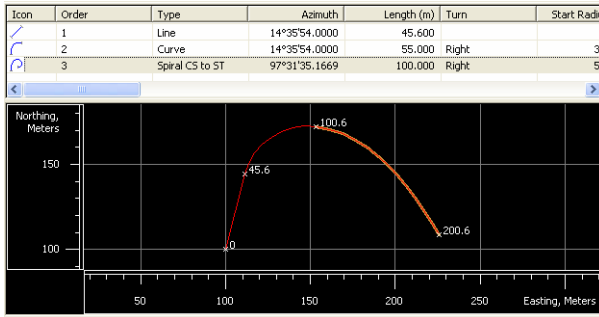

Figure 9-42. Table and Graph Pane for the Created Spiral
- Click **OK** to create (or add) the spiral. The Table and Graphic pane of the right panel of the *Road* tab display the created spiral (Figure 9-42).